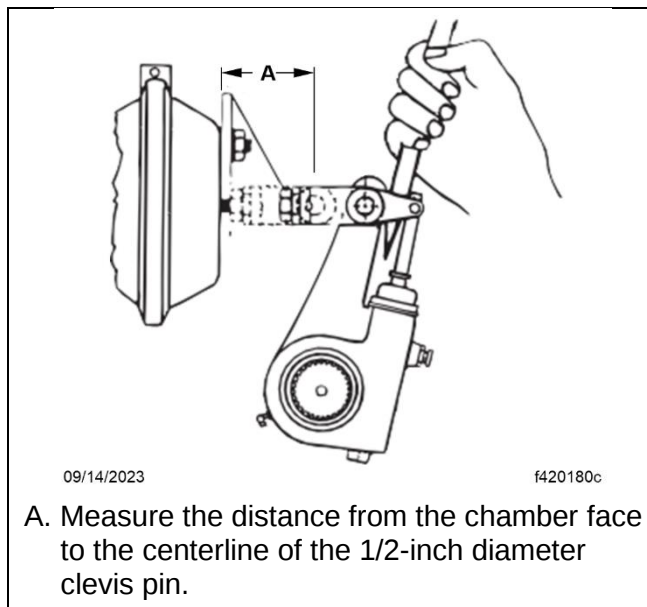

Fig. 3, Measuring the Stroke
7. Measure the distance from the chamber face to the centerline of the 1/2-inch diameter clevis pin, as shown in Fig. 3. This distance should be $2\text{-}1/4 \pm 1/8$ inch for long stroke air chambers and $2\text{-}3/4 \pm 1/8$ inch for standard stroke air chambers. See Table 1.